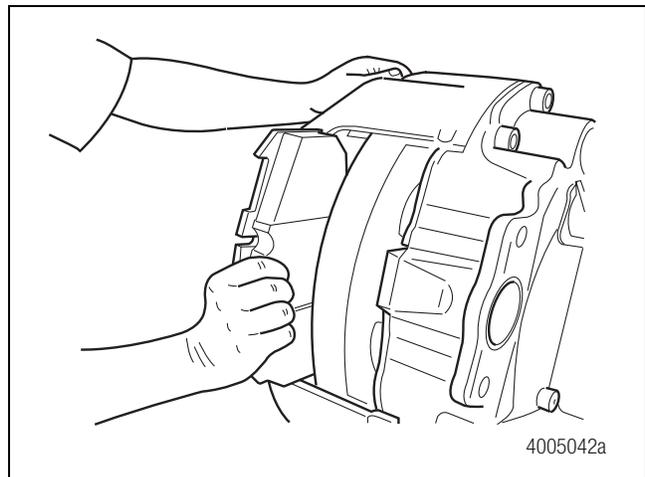

Figure 4.16
2. Slide the caliper OUTWARD. Install the outboard pad and spring into the outboard side of the caliper. Figure 4.16.
3. Slide the caliper INWARD. Install the inboard pad and spring into the inboard side of the caliper. Figure 4.16.